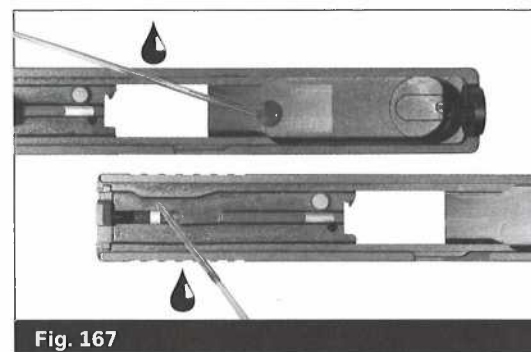

Fig. 167
- Slightly dampen a clean patch with gun oil or cleaner-lubricant-preservative and wipe the exterior surfaces of the slide. (Fig. 167)